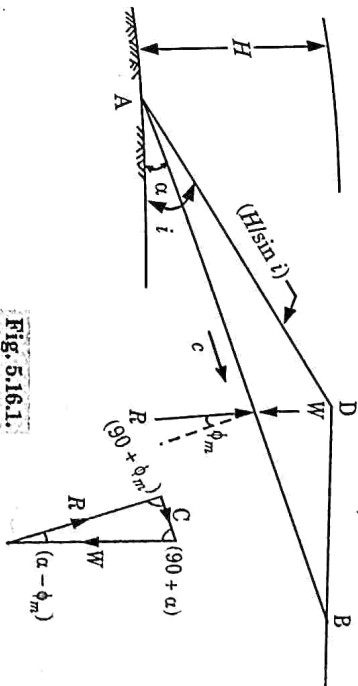

Fig. 5.16.1.
- Let us consider the equilibrium of the triangular wedge ABD formed by the assumed failure surface AB as shown in Fig. 5.16.1. The wedge is in equilibrium under the three forces :
- Weight of the wedge (W).
- The triangle of forces is also shown in Fig. 5.16.1. The magnitude and direction of W and c are known. The direction of R is also known. The weight of the wedge is given by,